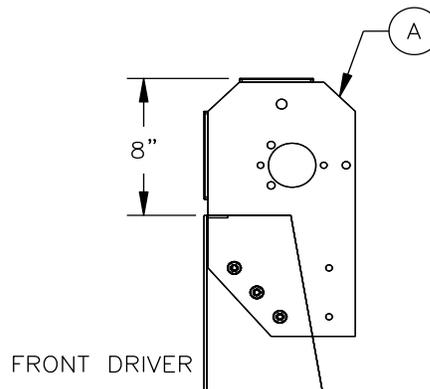

Figure 2
**Procedure:** Position the driver and passenger rolltube brackets (A) along the front sides of the gravel box. The brackets should be mounted at a distance of 8" higher than the top of the box (see Figure 2).